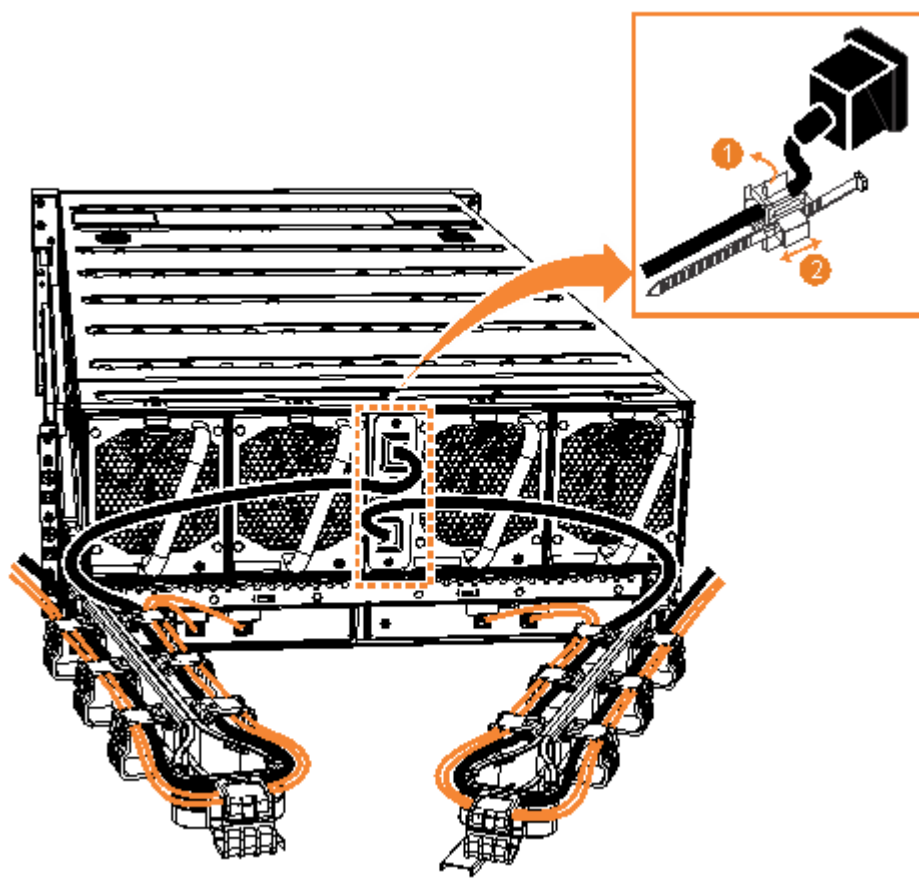

Figure 127. Secure power cables
2. Secure the power cables in the cable retainer at each power connector on the rear of the enclosure, as shown in Figure 127 on page 113. Also, ensure that each cable is installed along one of the cable management arms. The cable management arms also support the SAS cables.